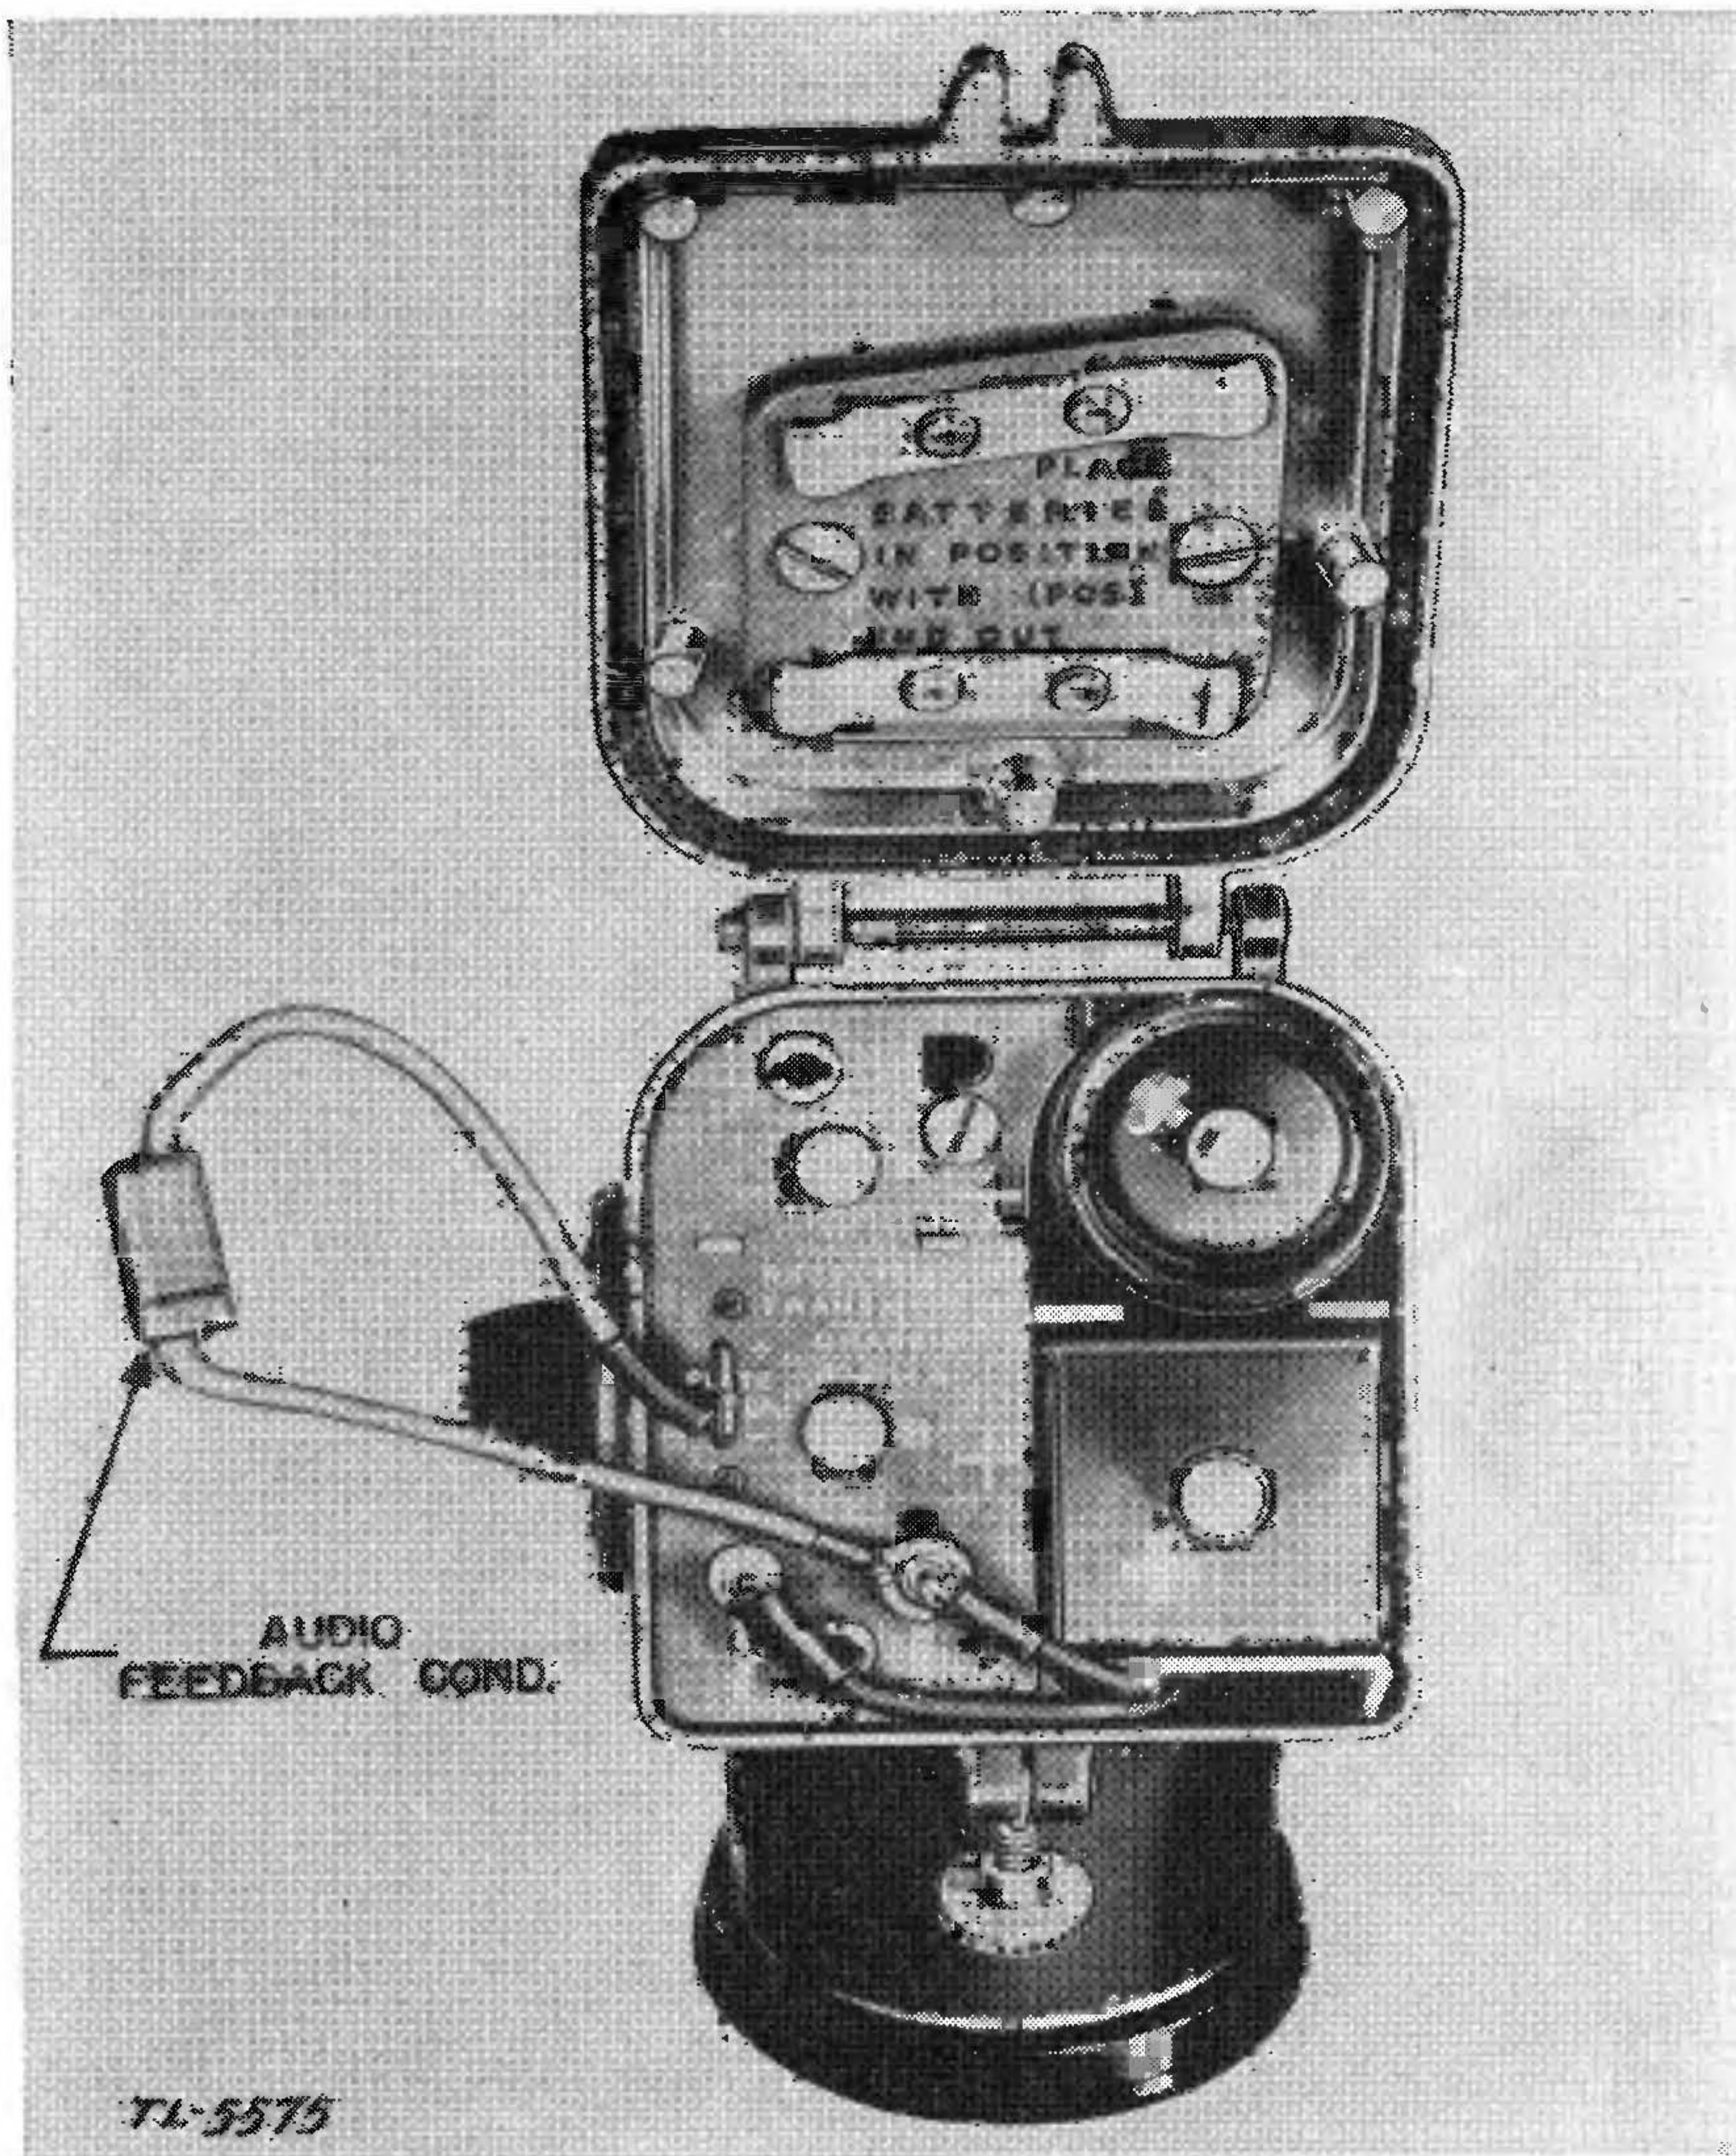

FIGURE 21.—Connections for self-modulation.
(2) If another such set is available, but is not of the correct carrier frequency, it can be made to operate at the correct frequency by inserting the correct crystal and proper antenna and tank coils.
(3) In order to preset one set, it will be necessary to convert the other set into a modulated signal generator. This may be done by simply putting the set in the transmit position and placing a buzzer near the microphone; if a buzzer is not available, the carrier can be self-modulated by converting the audio amplifier in the set into an audio oscillator. This circuit change can be made easily by placing a capacitor of  $100\mu\mu\text{f}$  between the microphone plug and the plate current meter jack on the terminal board of the chassis. This capacitor will provide enough feedback between the input and output to cause the audio amplifier to go into oscillation. When the radio set is put into the transmit position, an audio note will be heard in the earphone of the unit and a signal will be radiated, modulated by this audio tone. A special capacitor designed for this purpose is supplied with test equipment IE-15-A. (See figs. 21 and 22.) To simplify connections, one lead of the capacitor is tipped with a spade lug and the other lead is tipped with a plate current meter jumper. The spade lug has a small hole in it for the microphone plug and is designed to fit between the microphone plug and the microphone jack on the terminal board. The spade lug is painted green to identify it with the microphone plug, which is marked with a green spot.
(4) The plate current meter jumper connected to the capacitor replaces the plate current jumper in the set.
(1) First remove the chassis from the housing of the set.
(2) Select a crystal of the exact frequency to which the other set is to be preset, and place it in the transmitter crystal socket. Select another crystal which is 455 kc higher in frequency and place it in the receiver crystal socket. Select the proper antenna and tank coils and insert them into their respective sockets.
(3) Place the set into the test housing and connect the test harness as described in paragraph 71.
(4) With the antenna rod fully extended, grasp the test case and put the set in the transmit position and with a small screw driver adjust the transmitter tank adjustment screw for minimum reading of the plate current meter.
(5) Disconnect the harness from the chassis and remove the chassis from the test housing. *Do not forget to replace the plate current meter jumper.* Put the set into its own housing and connect in the audio feedback capacitor. (See figs. 21 and 22.) Place the spade lug of the capacitor lead between the microphone jack and the micro-